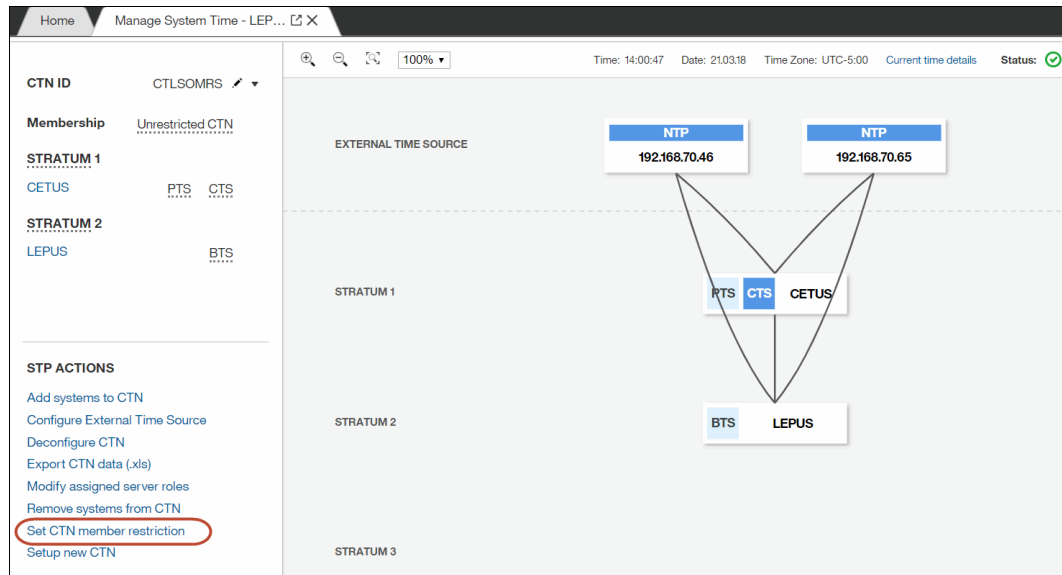

Figure 8-29 Set CTN member restriction
1. Select **Set CTN member restriction** from STP ACTIONS (see Figure 8-29).